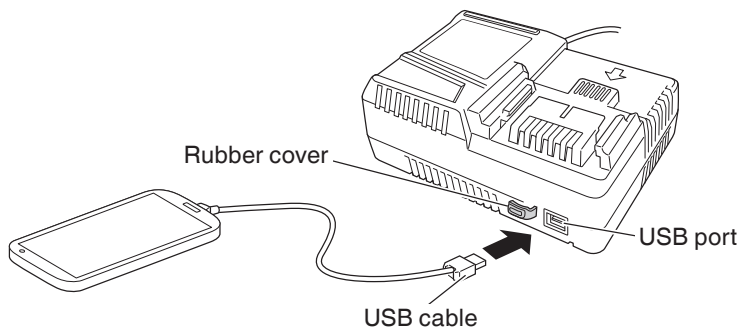

Fig.4
(2) Connect the USB cable. (Fig. 4)